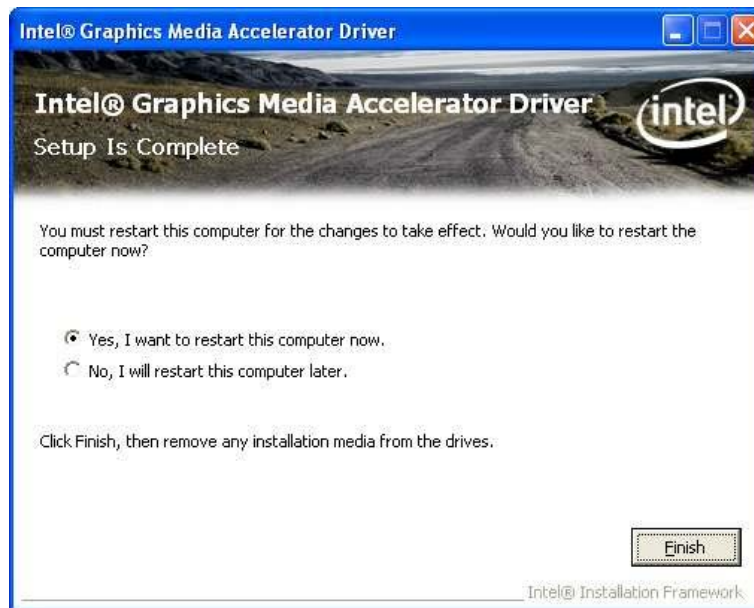

Figure 7-13: Intel® Graphics Media Accelerator Installation Complete
Step 9: Click **NEXT** to start the installation. After the driver installation process is complete, a confirmation screen appears (Figure 7-13).